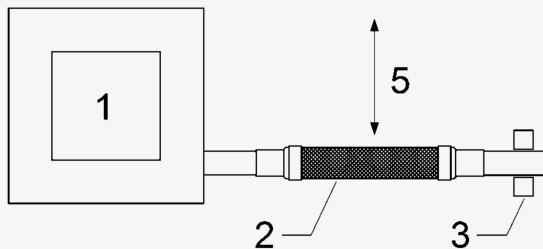

FIG.1 SINGLE SYSTEM
3. Vibration eliminators should be installed perpendicular to the direction of vibration. When vibration exists in two planes, two vibration eliminators should be used. Refer to Figs 1 and 2.